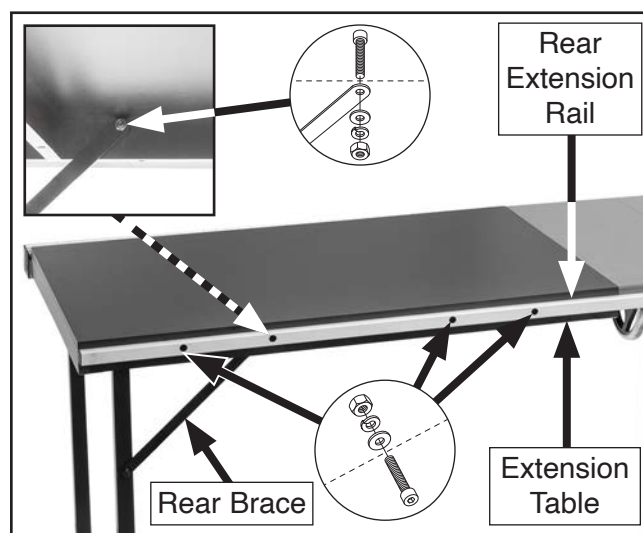

Figure 16. Rear extension rail attached to extension table.
20. Attach extension table to rear extension rail with (3) M8-1.25 x 25 cap screws, 8mm flat washers, 8mm lock washers, and M8-1.25 hex nuts, as shown in **Figure 16**. Hand-tighten fasteners for now.
21. Align open end of rear brace with remaining open cap screw, then secure with (1) 8mm flat washer, 8mm lock washer, and M8-1.25 hex nut, as shown in **Figure 16**. Hand-tighten fasteners for now.